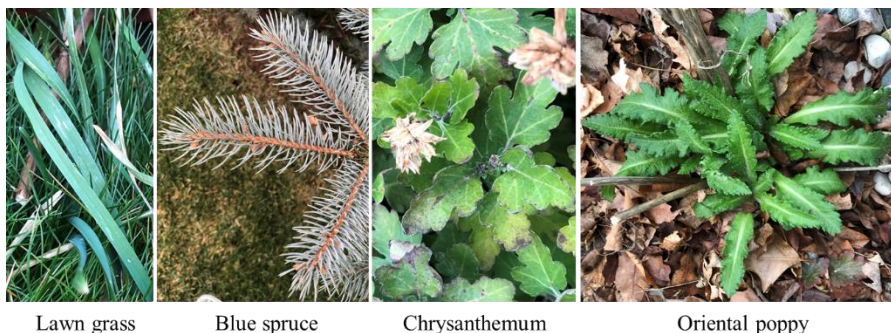

Figure 9. Exemplary plants in winter.
- Harvest ~12 green leaves from the plant of your choice (exemplary plants in winter are shown in **Figure 9**). These leaves should be non-senescent and developmentally and morphologically similar. If you are interested in including leaves from another plant, please feel free to do so, multiple leaves could be incubated in each container.